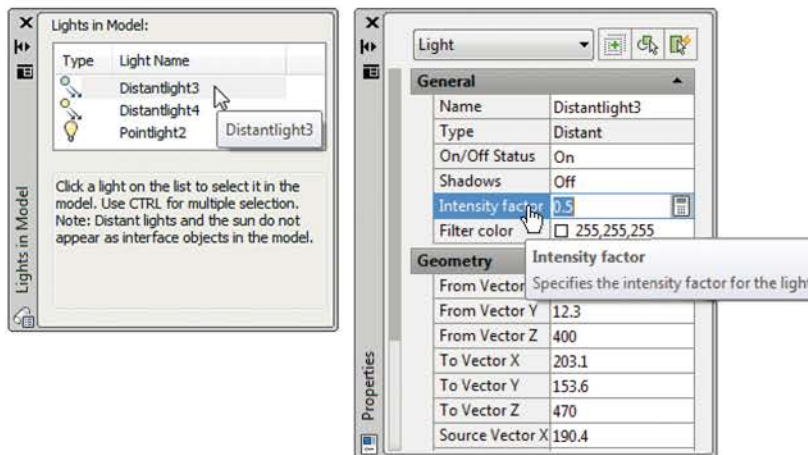

Fig. 16.25 The Lights in Model and Properties palettes
7. When the model has been rendered, if a light requires to be changed in intensity, shadow, position or colour, *click* the arrow at the bottom right-hand corner of the **Visualize/Lights** panel and the **Lights in Model** palette appears (Fig. 16.25). *Double-click* a light name in the palette and the **Properties** palette for the elected light appears into which modifications can be made (Fig. 16.25). Amendments can be made as thought necessary.